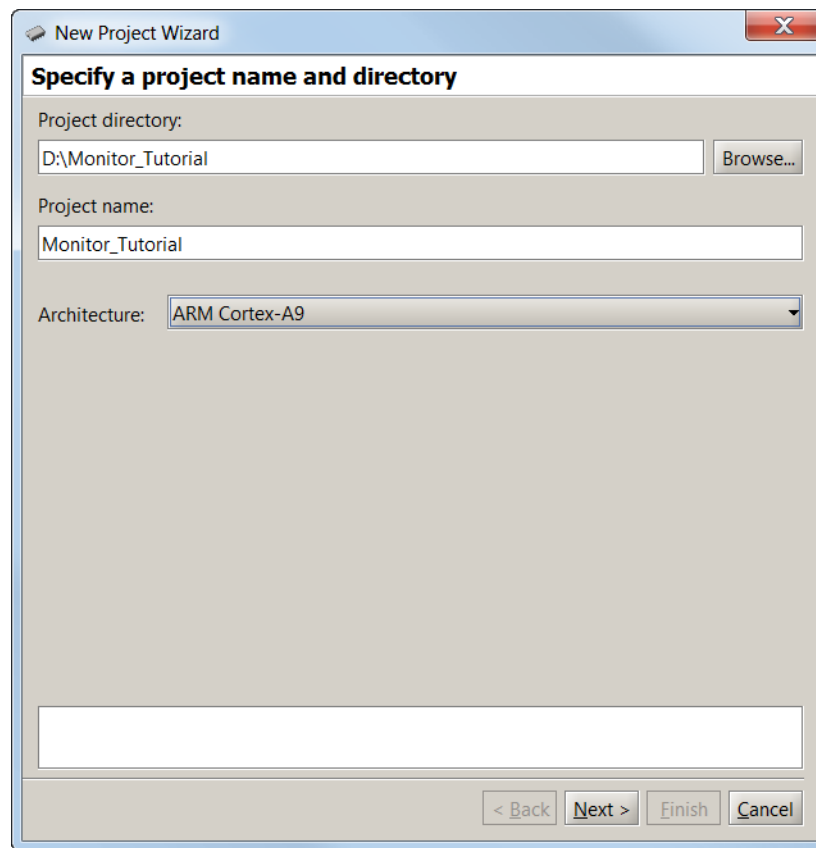

Figure 5. Specifying the project directory and name.
1. Select **File > New Project** to open the *New Project Wizard*, which leads to the screen in Figure 5. The Wizard presents a sequence of screens for defining a new project. Each screen includes a number of dialogs, as well as a message area at the bottom of the window. The message area is used to display error and information messages associated with the dialogs in the window. Double-clicking the mouse on an error message moves the cursor into the dialog box that contains the source of the error.
In Figure 5 we have specified the file system directory *D:\Monitor_Tutorial* and the project name *Monitor_Tutorial*. For simplicity, we have used a project name that matches the directory name, but this is not required.
The Monitor Program can be used with either an ARM-based system or a Nios II-based system. The choice of a processor is made in the window in Figure 5 in the box labeled **Architecture**. We have chosen the ARM Cortex-A9 architecture for this tutorial.